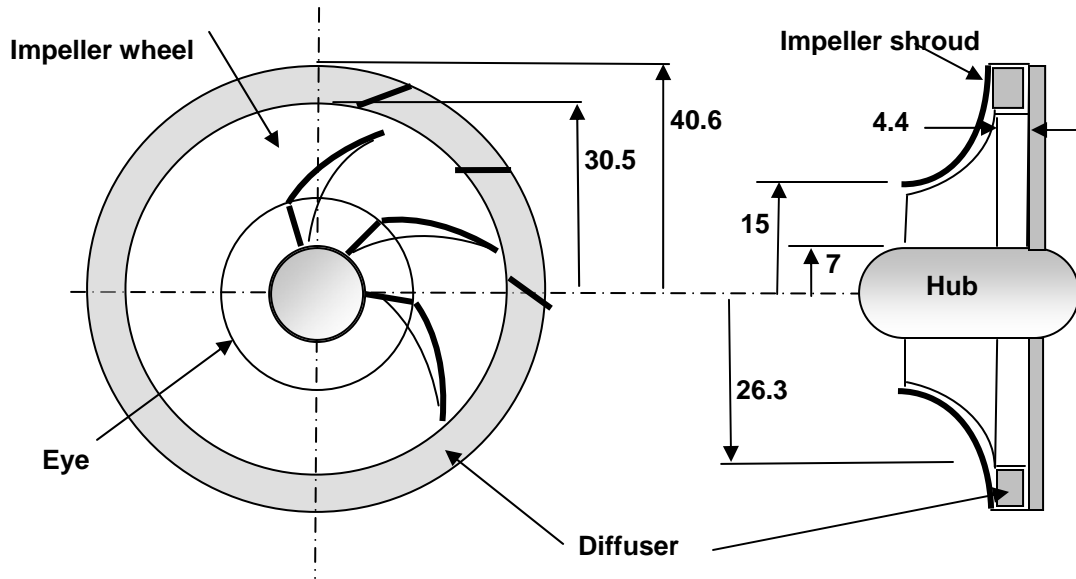

Figure E7.5 Schematic diagram of impeller wheel
8. A radial bladed centrifugal compressor designed with zero pre-whirl (axial entry) for a turbojet engine is shown in Figure E7.5 and has the following data: